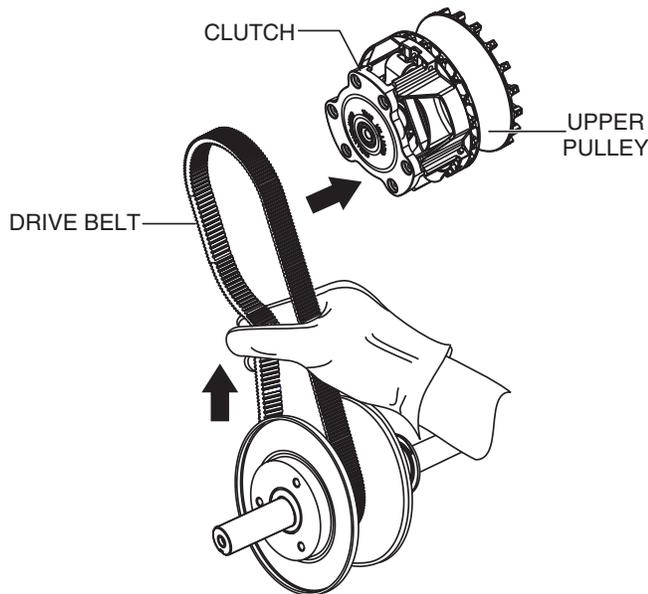

Figure 28. Drive Belt Installation (Upper Pulley)
- Place the free end of the drive belt over the clutch, and into the upper pulley groove (Figure 28).